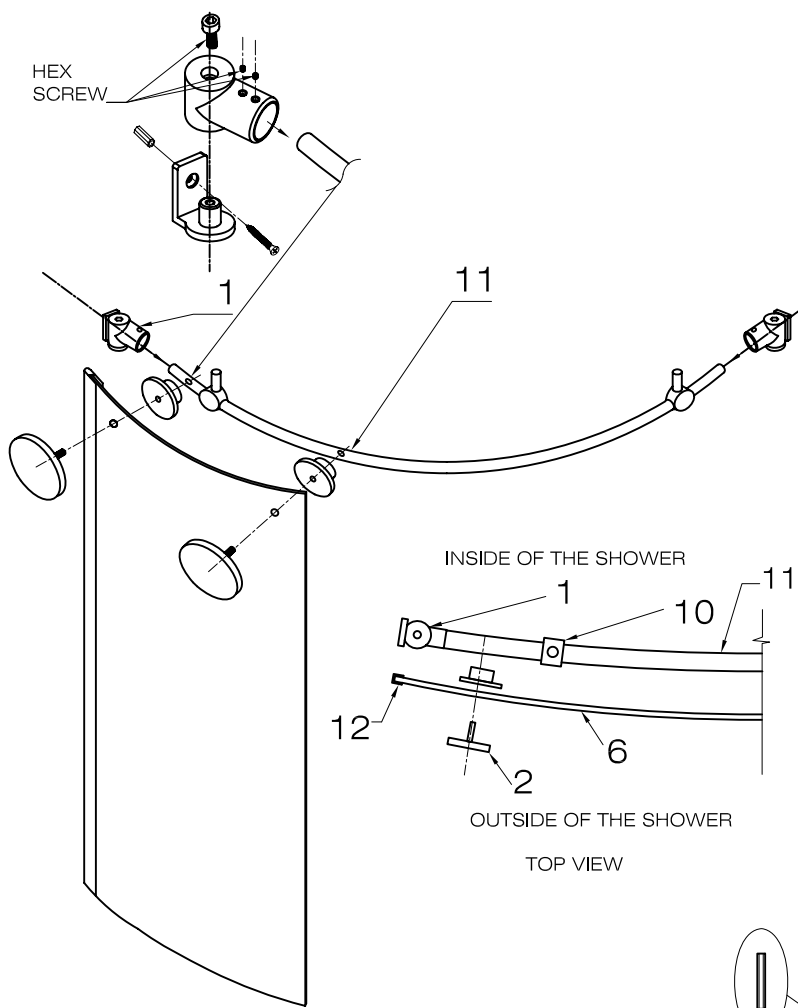
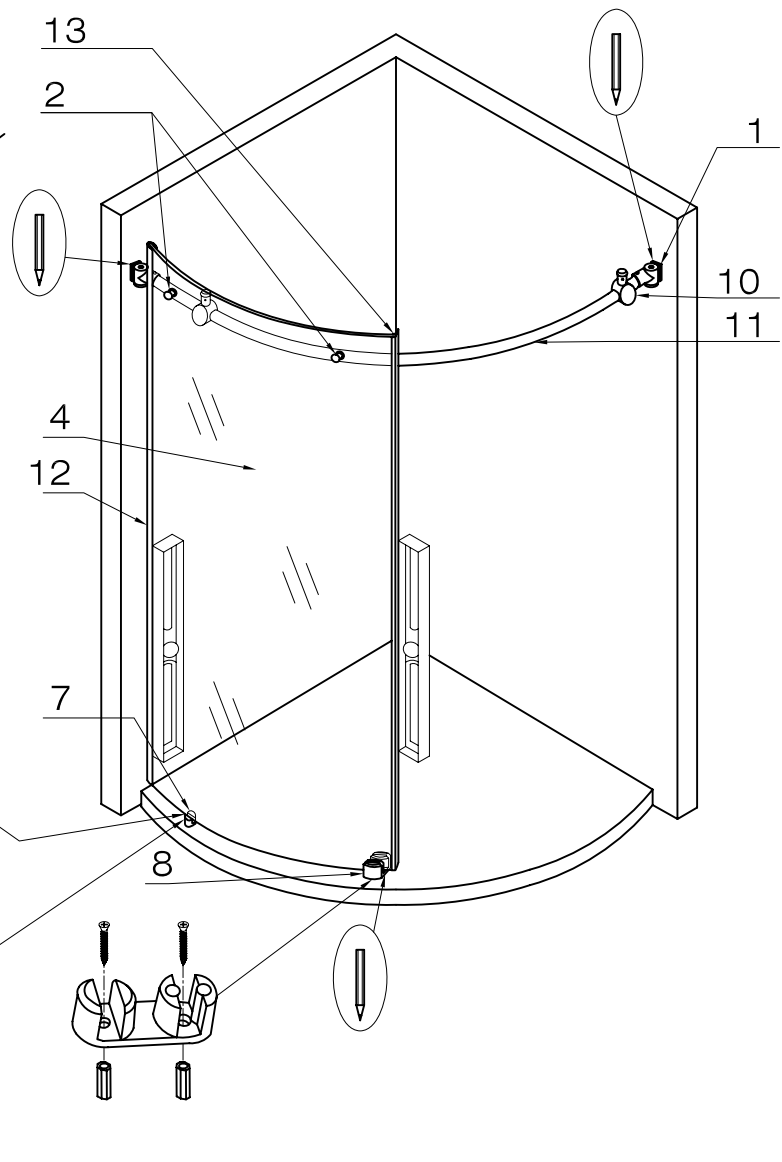

FIG. 4
FIG. 5
4. Place structural rail (11) inside the wall mount bracket (1). Tighten two hex screws on the bracket. See FIG. 4, page 5. Repeat this step for another bracket.
5. Screw fixed panel (4) to the structural rail (11) with fixed panel holders (2), (FIG. 4, page 5).
7. Place fixed panel (4) with structural rail (11) in desired position. Use level to position it correctly, (FIG.5, page 5).
8. Holding fixed panel (4) in vertical position place fixed panel bottom clip (7) and bottom door guide (8) under the fixed panel, (FIG.5, page 5).
9. Mark location of the wall mount bracket (1) on the wall.
10. Mark location of the fixed panel bottom clip (7) and bottom door guide (8) on the floor.
11. Remove front fixed panel (4) from the position in the opening.
14. Place wall mount bracket plate (1) to the wall and screw plate with 2" screw (16).
15. Mark holes on the floor for fixed panel bottom clip (7) and bottom door guide (8).
16. Remove fixed panel bottom clip (7) and bottom door guide (8) from the position on the floor, drill holes, place anchors inside.
17. Screw fixed panel bottom clip (7) and bottom door guide (8) to the floor with 1 1/8" screw (15).
19. Screw wall mount bracket body (1) to the wall mount bracket plate with the hex screw from the top of the bracket.
20. Tighten two hex screw of the wall mount bracket body (1) to the structural rail, see FIG. 4.